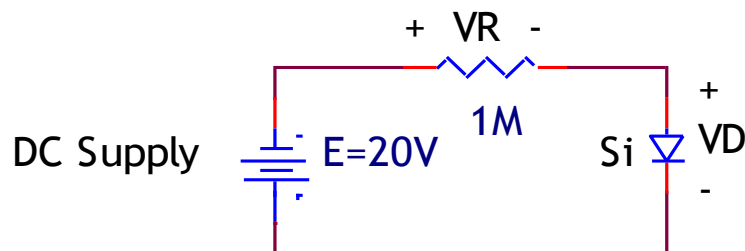

*Fig. 3.1*
1. Construct the circuit of *Fig. 3.1* with the supply ( $E$ ) is set at 0 V. Record the measured value of the resistor.